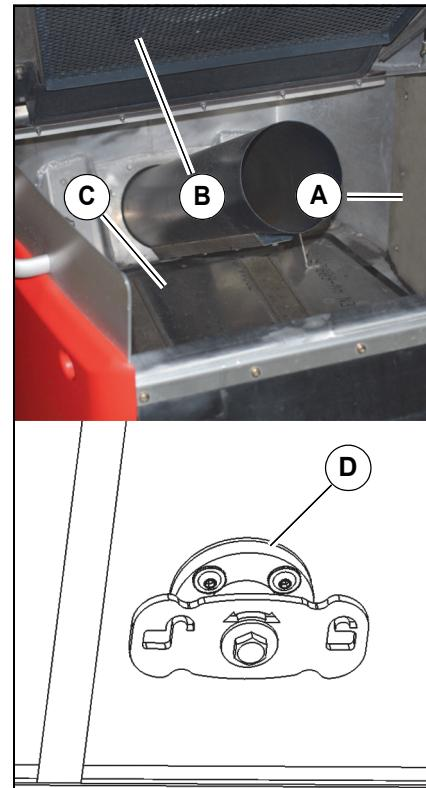

Fig. 153:
2. Half raise the dirt hopper and open the lock **Fig. 153-D** of the sump flap. Then bring the dirt hopper into its end position.
3. Clean the dirt hopper from the inside with a water hose or a high-pressure cleaner. Pay special attention to the lateral filter sieve **Fig. 153-A** and the filter sieve **Fig. 153-B** in the lid. Clean with the auxiliary tool as required or remove the contaminated filter sieve.
4. When the dirt hopper is raised, the valve of the settling tank **Fig. 153-C** opens. Flush the circulating water system thoroughly with water.